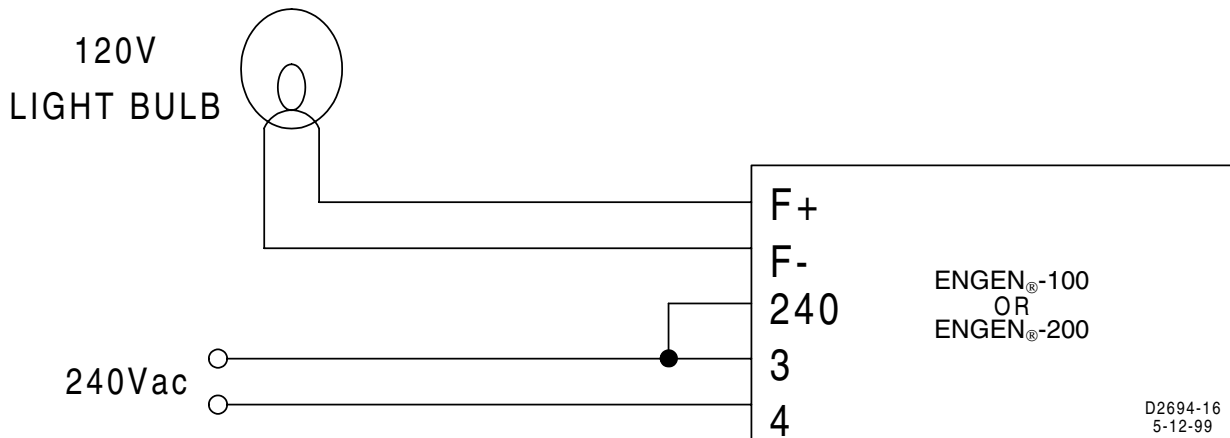

Figure 3-1. Operational Test
To operationally test the voltage regulator section of an ENGEN[®]-100 or ENGEN[®]-200, refer to Figure 3-1 and perform the following steps in the order given:
1. Connect the voltage regulator as shown by Figure 3-1 and apply 240 Vac as shown.